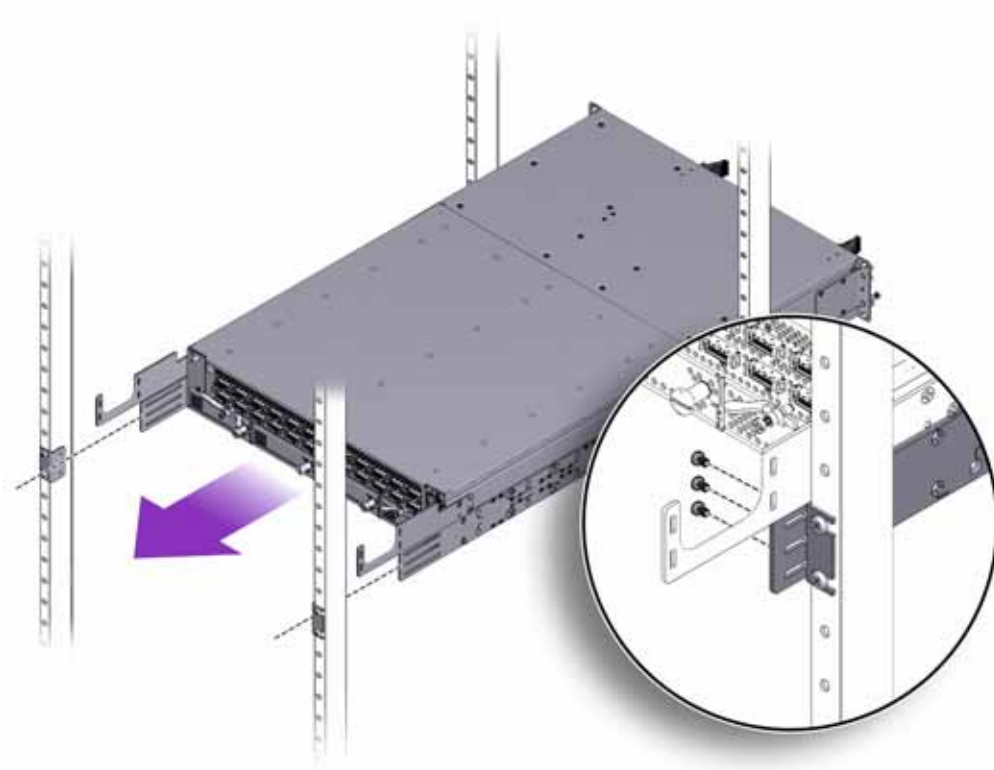

Figure 13 Attaching the Rack Depth Measures to the Angle Brackets
- Step 13** Align the slots in the rack-depth rails with the screw holes in the rear angle brackets, and insert the 6 M3.5 x .6 x 6 mm Phillips pan-head screws (320-00113-00) through the slots in the rack-depth rails and tighten them into the screw holes in the rear angle brackets. See Figure 13.